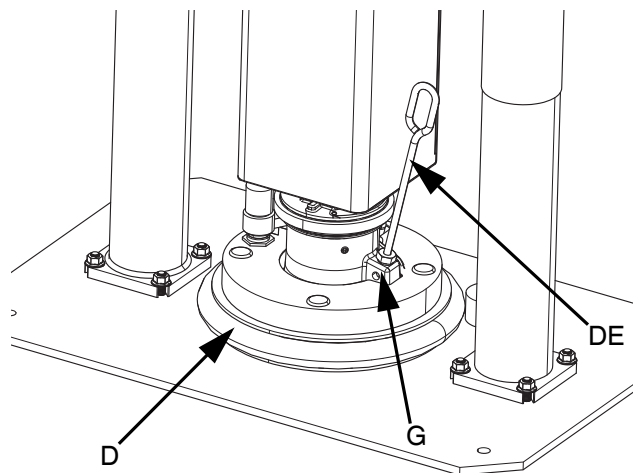

FIG. 16: Heated Platen
2. Open the main air ball valve (BA) and set the ram air regulator (BB) to 40 psi (0.28 MPa, 2.8 bar). Set the director valve handle (BC) to the UP position and let the ram rise to its full height.
6. Remove the bleed stick (DE) from the platen bleed port. See FIG. 16.